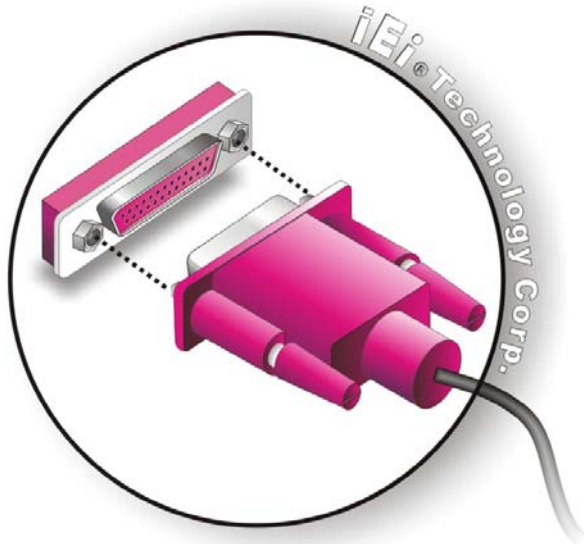

Figure 0-22: Parallel Device Connector
Step 2: Insert the DB-25 connector. Insert the DB-25 connector of a parallel device into the DB-25 connector on the external peripheral interface. See Figure 0-22.